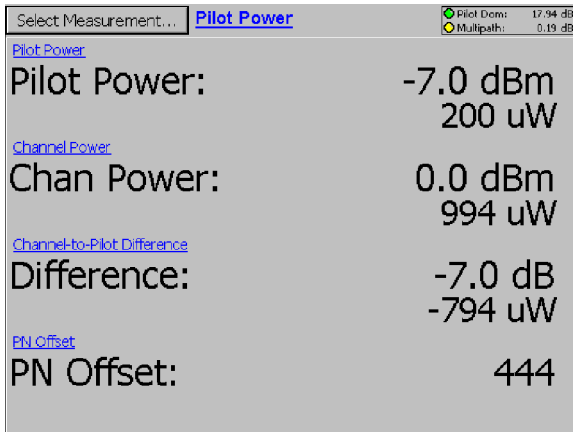

Figure 3-62: A typical cdmaOne/cdma2000 Pilot Power display
4. Tap **Pilot Power**. See Figure 3-62.